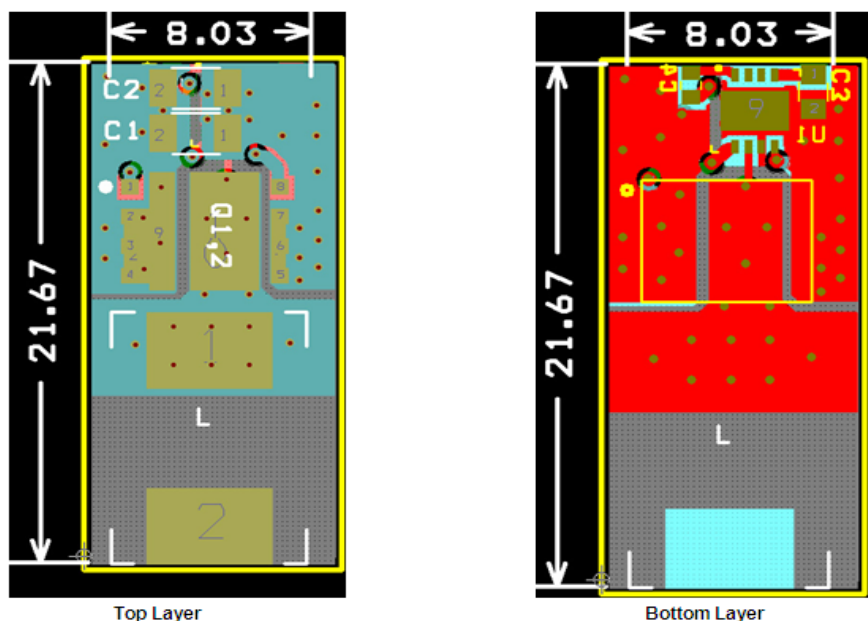

Figure 31. Recommended PCB Layout
2. The PHASE copper trace serves two purposes; In addition to being the current path from the Power Stage package to the output inductor (L), it also serves as heat sink for the lower FET in the Power Stage package. The trace should be short and wide enough to present a low resistance path for the high current flow between the Power Stage and the inductor. This is done to minimize conduction losses and limit temperature rise. Please note that the PHASE node is a high voltage and high frequency switching node with high noise potential. Care should be taken to minimize coupling to adjacent traces. The reference layout in figure 31 shows a good balance between the thermal and electrical performance of Power Stage.
3. Output inductor location should be as close as possible to the Power Stage device for lower power loss due to copper trace resistance. A shorter and wider PHASE trace to the inductor reduces the conduction loss. Preferably the Power Stage should be directly in line (as shown in figure 31) with the inductor for space savings and compactness.